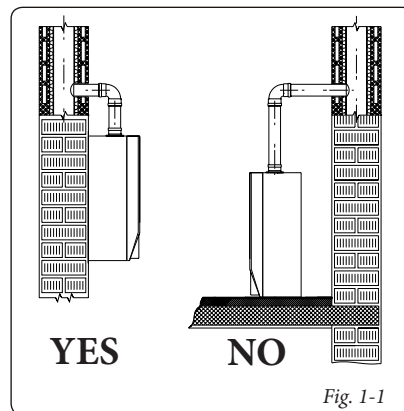

Fig. 1-1
- Installation regulations: these boilers have not been designed to be installed on plinths or floors (Fig. 1-1), but for wall installation. The wall surface must be smooth, without any protrusions or recesses enabling access to the rear part. Wall mounting of the boiler must guarantee stable and efficient support for the generator. *The plugs (standard supply) are to be used only in conjunction with the mounting brackets or fixing template to fix the appliance to the wall;* they only ensure adequate support if inserted correctly (according to technical standards) in walls made of solid or semi-hollow brick or block. In the case of walls made from hollow brick or block, partitions with limited static properties, or in any case walls other than those indicated, a static test must be carried out to ensure adequate support. The boilers must be installed in a way to prevent collisions and tampering.